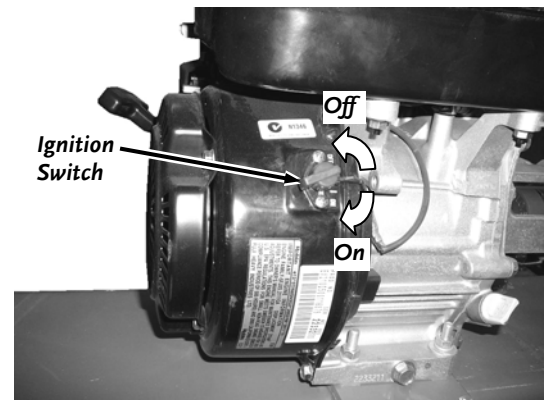
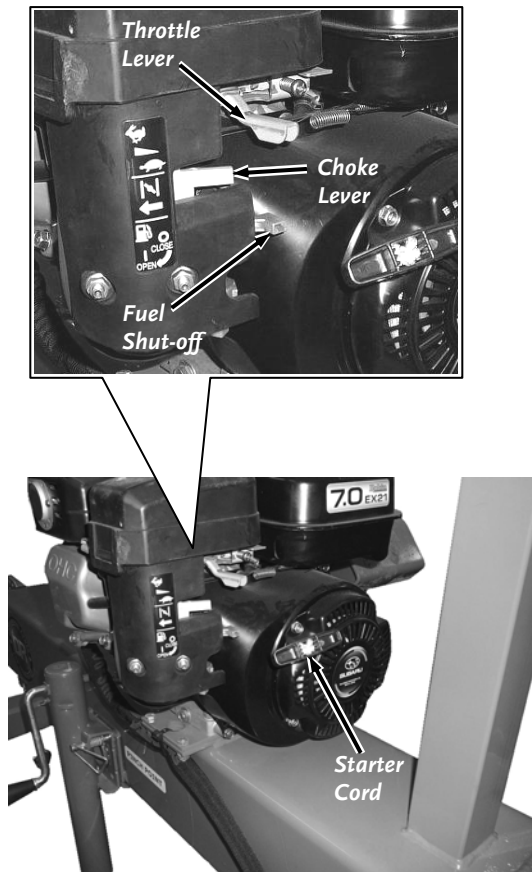

Figure 8
Figure 9
1. Turn the Ignition Switch to the “ON” position (**Figure 8**).
2. Make sure the Fuel Shut-off is in the “OPEN” position (**Figure 9**).
1. Slowly move the Throttle Control Lever to the idle position (**Figure 9**).
2. Turn the Ignition Switch to the “Off” position (**Figure 8**).
2. Move the Throttle Lever to the idle position (**Figure 9**) and turn the Ignition Switch of the Engine to the "OFF" position (**Figure 8**).